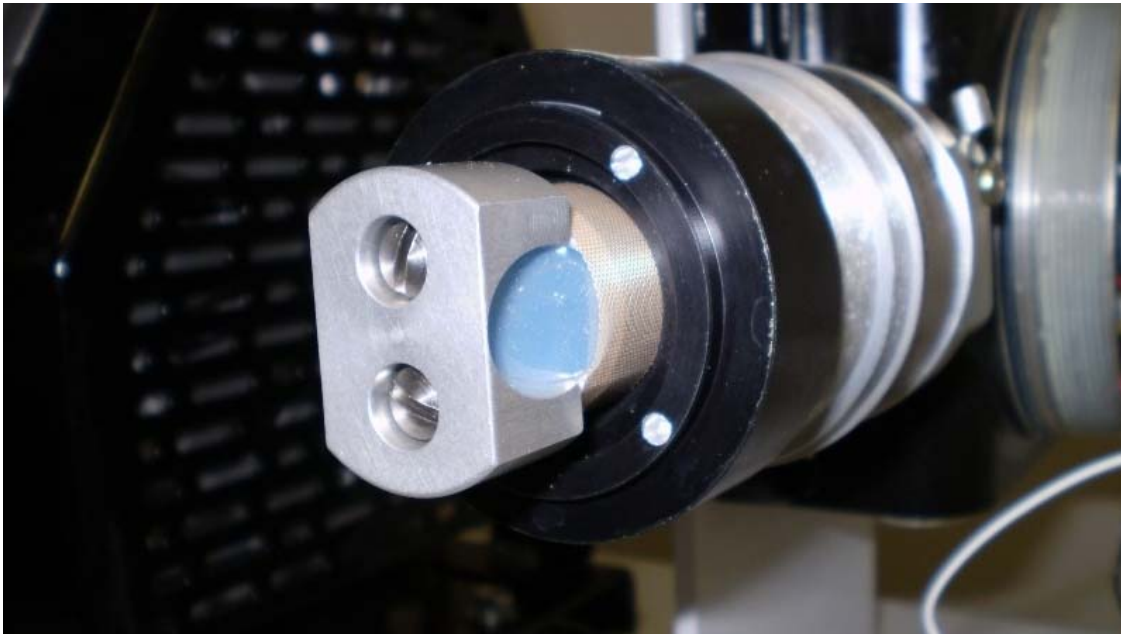

Figure 53: HC IR sensor installation orientation
- See Figures 53 and 54.
- See Figure 53.
6. Re-install the (2) 1/4" 45° flare tubing on the top and bottom sides of the HC IR sensor module.